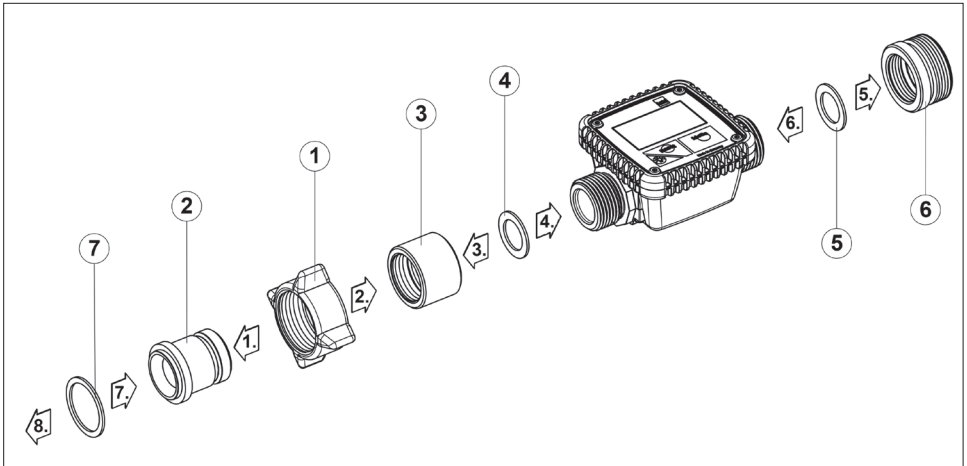

Fig. 3
1. Push the wing nut (1) onto the threaded nipple (2) (→ Fig. 3)
2. Screw the threaded nipple (2) into the threaded sleeve (3)
3. Insert the seal (4) in the threaded sleeve (3)
4. Screw the threaded sleeve (3) onto the flow meter
5. Insert the seal (5) in the reducing connector (6)
6. Screw the reducing connector (6) onto the flow meter
7. Insert the seal (7) into the wing nut (1)